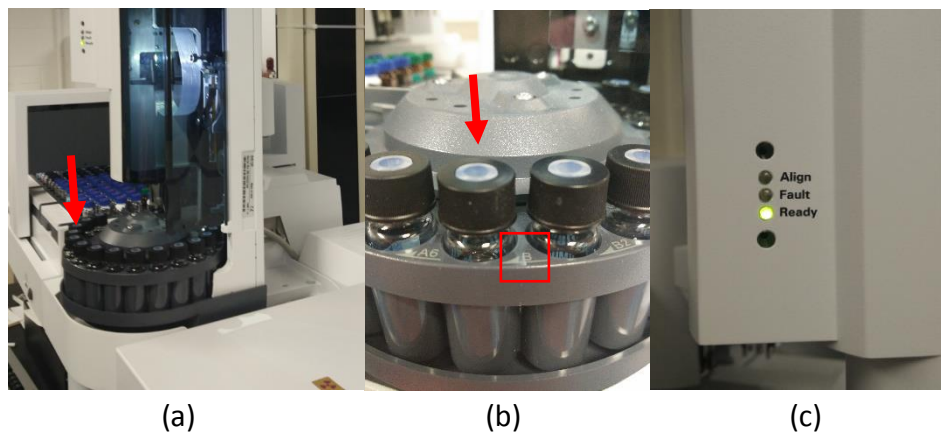

Figure 1 (a) Injector tower; (b) Wash vials; (c) Indicator light
- a. Check and refill wash vials on the injector tower (Fig. 1). The volume of solvent should be above the minimum level specified on the wash vial.
- Mount the injector tower over the injection port specified in your method. Default injection ports: Front: mass spectrometry (MS); Back: electron capture detector (ECD).
- Ensure that the *Ready* light is on after switching the injector tower (Fig. 1-c).